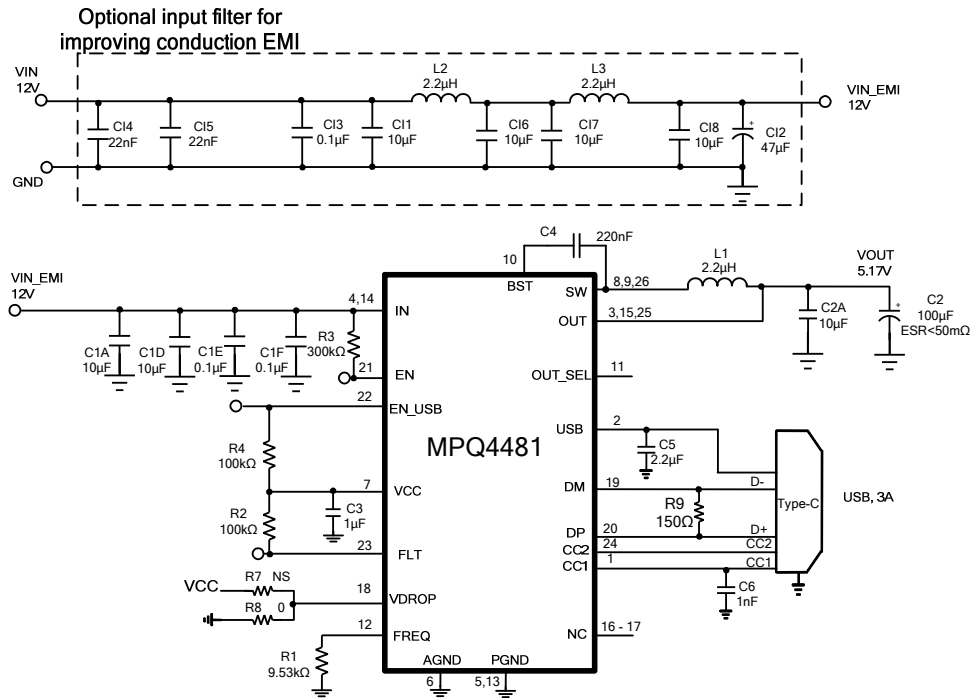
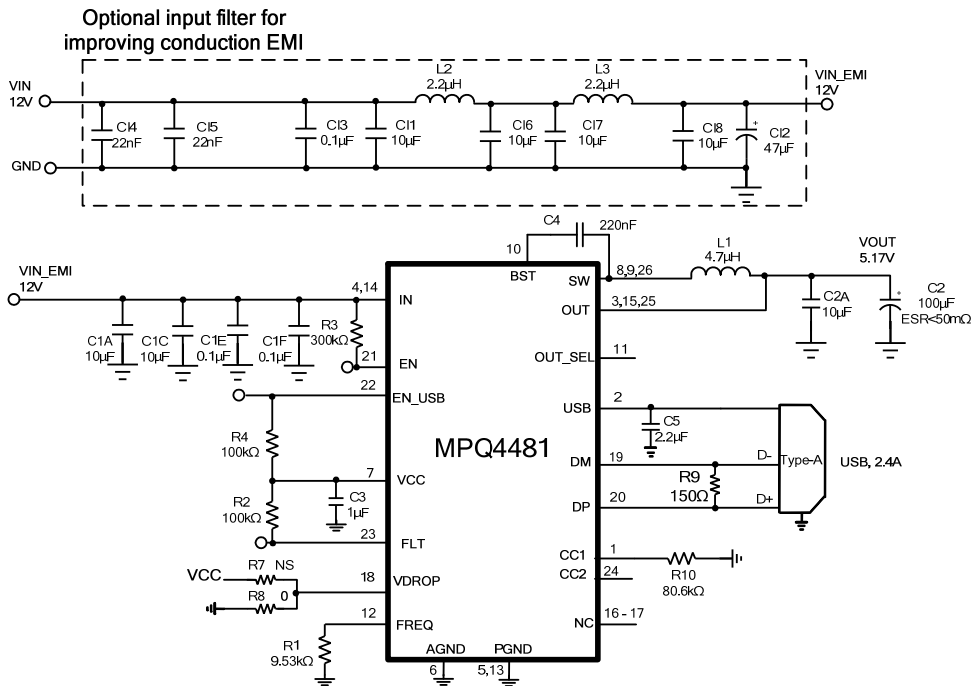

Figure 13: USB Type-C 5V/3A DFP Port ⁽¹⁰⁾
Figure 14: USB Type-A 5V/2.4A Port ⁽¹⁰⁾
- 9) The recommended layout is based on the Typical Application Circuits in Figure 13 and Figure 14.